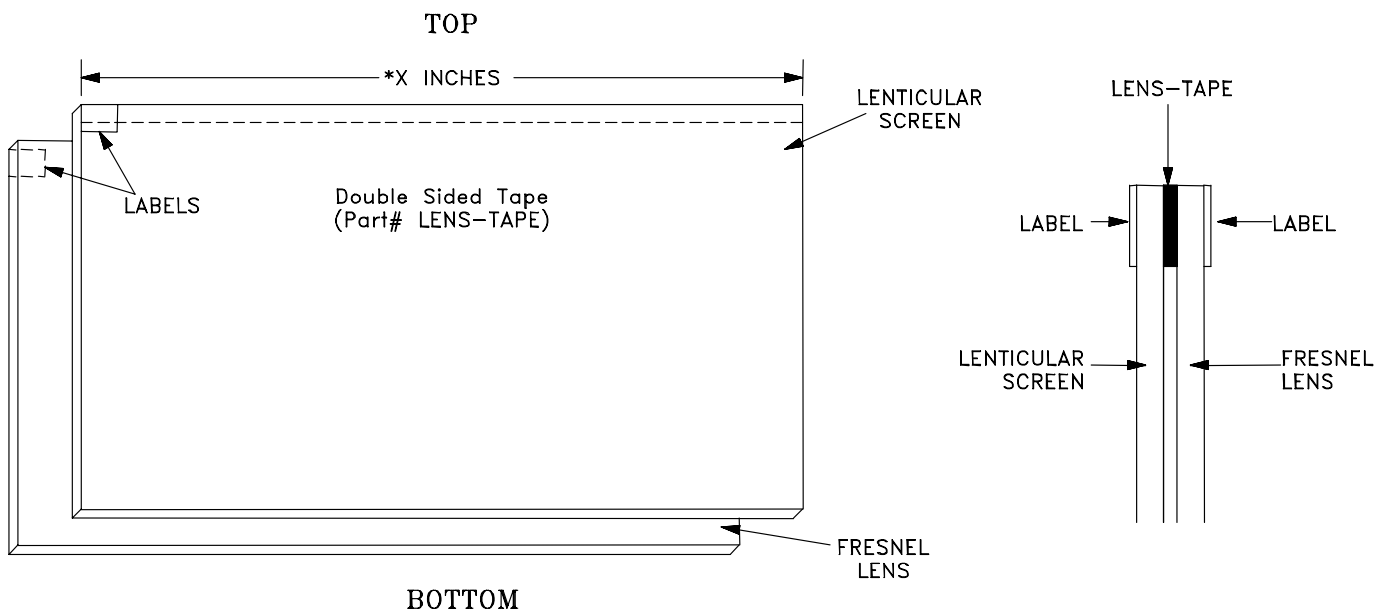

Figure 4: Installing the Fresnel Lens & Lenticular Screen
2. Sandwich the Fresnel Lens and Lenticular Screen together. The Lenticular Screen label must be towards the front and the Fresnel Lens label towards the rear. (Figure 4)